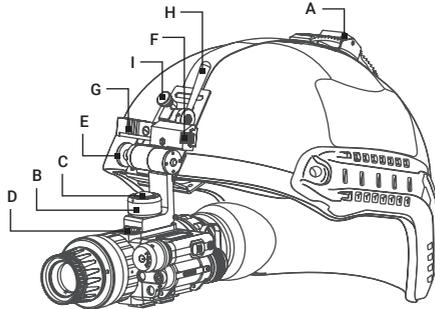

FIGURE 2-3. MOUNTING THE WOLF-14 TO A HELMET
Mount the Wolf-14 to a helmet as follows (refer to Figure 2-3):
In Figure 2-3, the Wolf-14 is shown in the correct position for the left eye. To readjust the Wolf-14 for the other eye, reverse its positioning and reinstall it on the helmet mount bracket (see Figure 2-3). Use the second unit rail located on the opposite side of the unit. Push the button (F) and move the unit along the slide-rail (G) until the most comfortable position is reached.